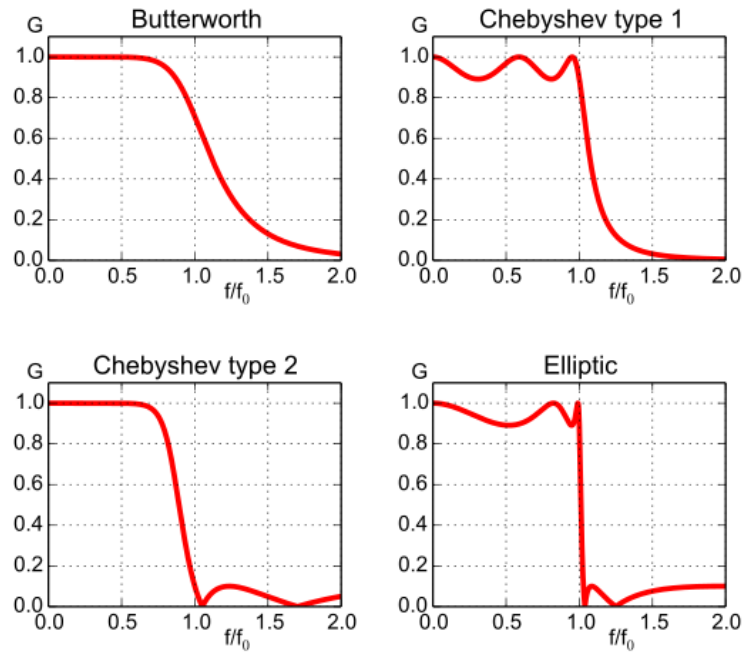

Figure 2: Frequency of the Signal vs. Signal Magnitude
2.5 The output of the Butterworth design and other common filter types are shown in Figure 2.